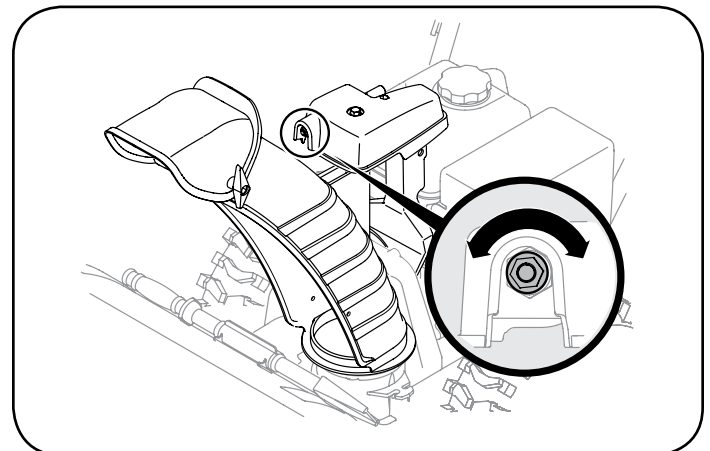

Figure 53
1. To increase the preload, tighten the hex nut clockwise in $\frac{1}{4}$ turn intervals. See Figure 53.